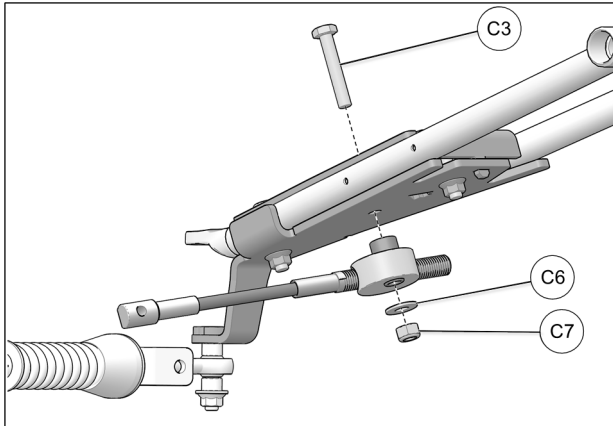

Fig. 23
12. Attach steering limiter aluminum cable assembly under anchor bracket using bolt (C3), washer (C6), and nut (C7). Tighten nut to 50 N•m [37 lb•ft]. Refer to Fig. 23